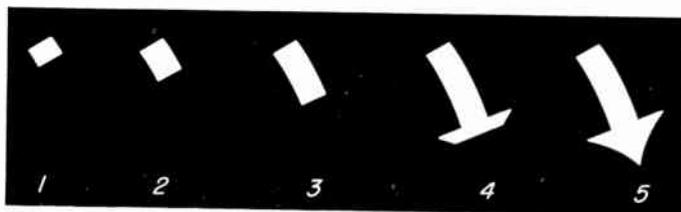

Fig. 13-14. Successive stages in wiping in a rear-lighted arrow.
**Rear-lighted cutouts.** It is often necessary to devise a means to animate an arrow which grows by wiping in from tail to head (Fig. 13-14). The